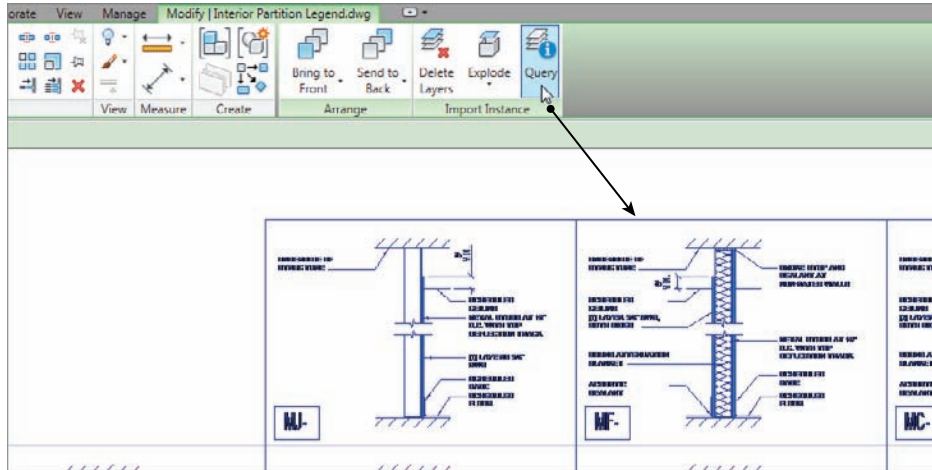

FIGURE 11.56 Clicking the Query button in the Import Instance panel
3. On the Modify | Interior Partition Legend.dwg tab, in the Import Instance panel, click the Query button, as shown in Figure 11.56.
4. Select the line shown in Figure 11.56.